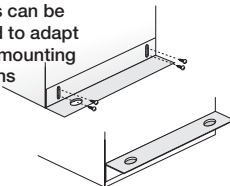

Figure 4
2. Attach adjustable mounting brackets to fan, but leave the screws loose until proper height is determined, shown in Figure 4.